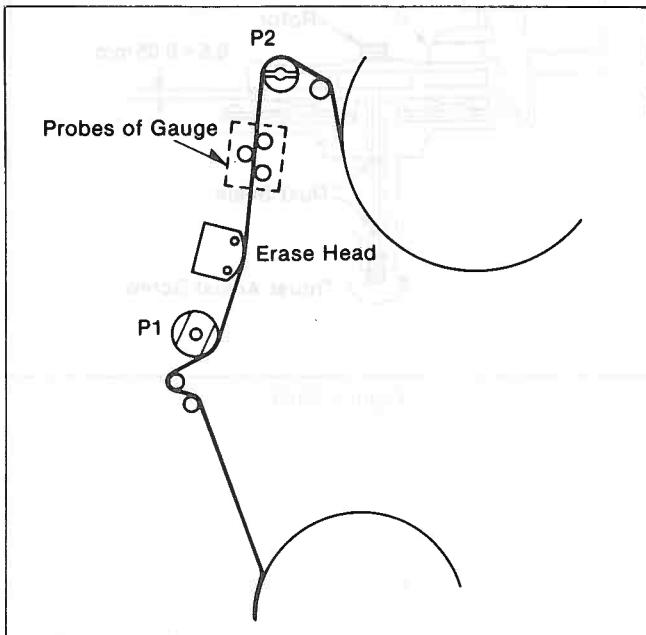

Figure M34 Measurement of Back Tension
2. Insert the Back Tension Meter into the path of a tape, and measure the back tension to be within specification as shown in Figure M34.